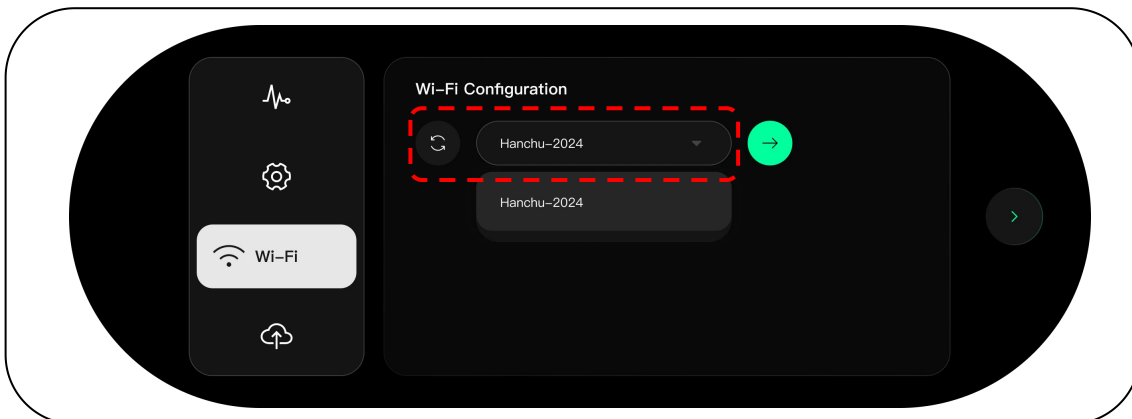
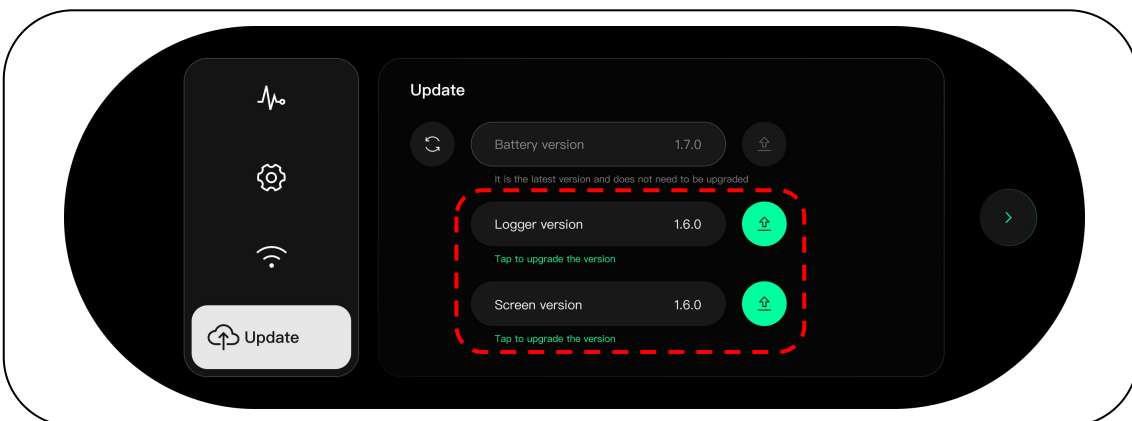

Figure 58
Figure 60 OTA Options Screen Details
- 2) Click the drop-down menu to select the WiFi you want to connect to, as shown in Figure 58.
Touch the "OTA" option in the menu bar, the display is shown in Figure 58. In this interface, you can choose to upgrade BCU version, WIFI module version and LCD version to the latest version remotely, as shown in Figure 60.